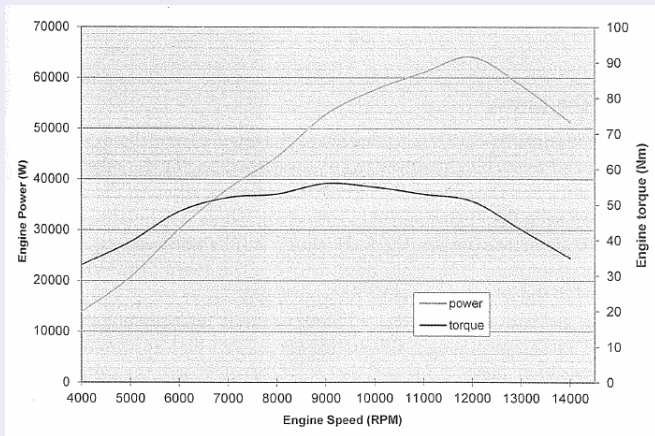

Figura: 7.2: Curvas típicas de potência e torque - Motor 600 cc de moto.
1. Rather than memorising change speeds for each gear the driver can achieve exactly the same effect by driving around the peak power point (at 12 000 rpm in the case of *Figure 7.2*). This means changing up at say 12 700 rpm at which point the revs would drop to around 11 300 rpm.
A FSAE/Formula Student car has wheel torque and gear ratios as given in *Example 7.1* and engine output as in *Figure 7.2*. The large rear sprocket has a diameter of 250 mm. The differential is supported as shown in *Figure 7.6*. Determine: